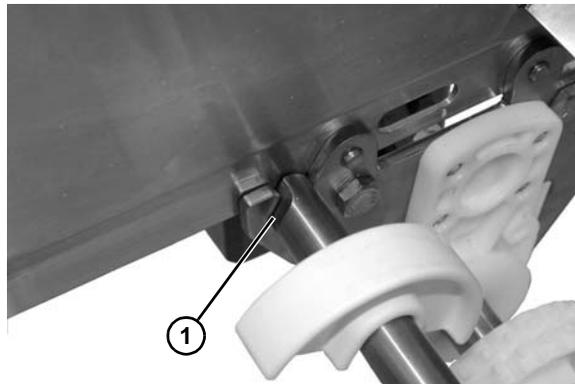

Figure 39
6. When replacing belt return, be sure shaft is seated in pocket on side plate (**Figure 39, item 1**).